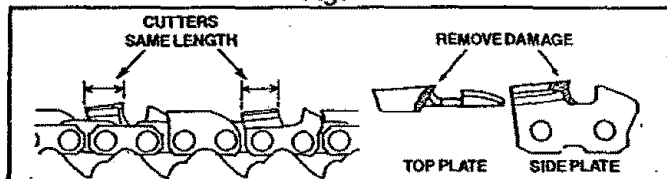

Figure 41
- d.) Keep all cutters the same length. Figure 41.
- e.) File enough to remove any damage to cutting edge (side & top plate) of cutter. Figure 41.